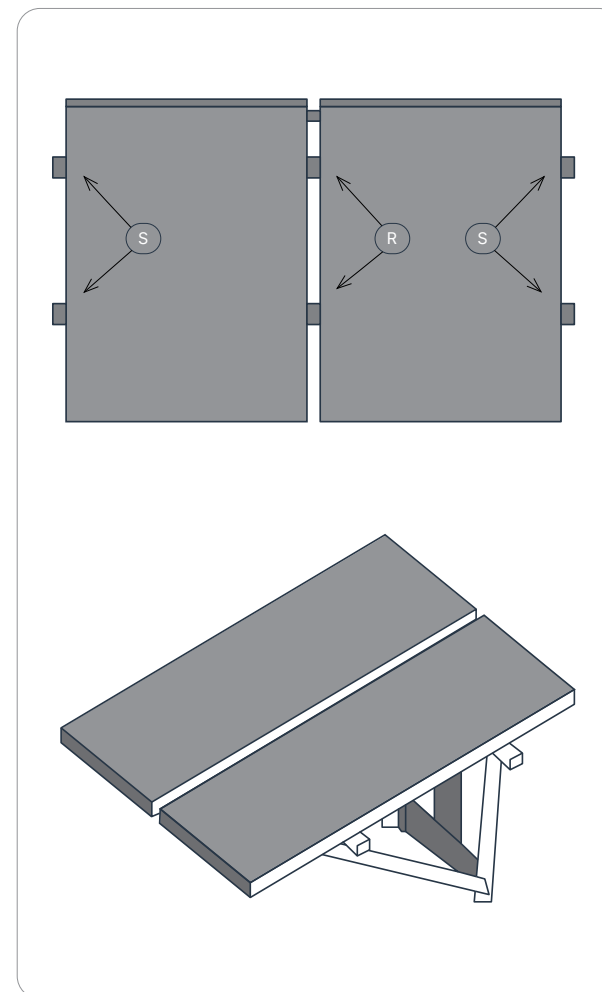

Figure 9. Installation of Carrier and Tilt Bracket.
a. Installation of Carrier and Tilt Bracket, refer to **Figure 9**:
1. Attach the **Middle Clamp (R)** to the middle of the **Solar Profiles (G)** and tighten lightly.
2. Place the first solar panel on the **Solar Panel Profile (G)** so that the **Middle Clamps (R)** holds one side of the solar panel and slide **two (2)** of the **End Clamp (S)** into the solar profile and **fasten the end clamps**.
3. Place the second solar panel on the **Solar Panel Profile (G)** and push it towards the **Middle Clamp (R)**, so that the **Middle Clamp** holds the solar panel.
4. Slide the **two End Clamp (S)** into the **Solar Profile (G)** and fasten the **End Clamp (S)**.
5. Tighten the **Middle Clamp (R)**.